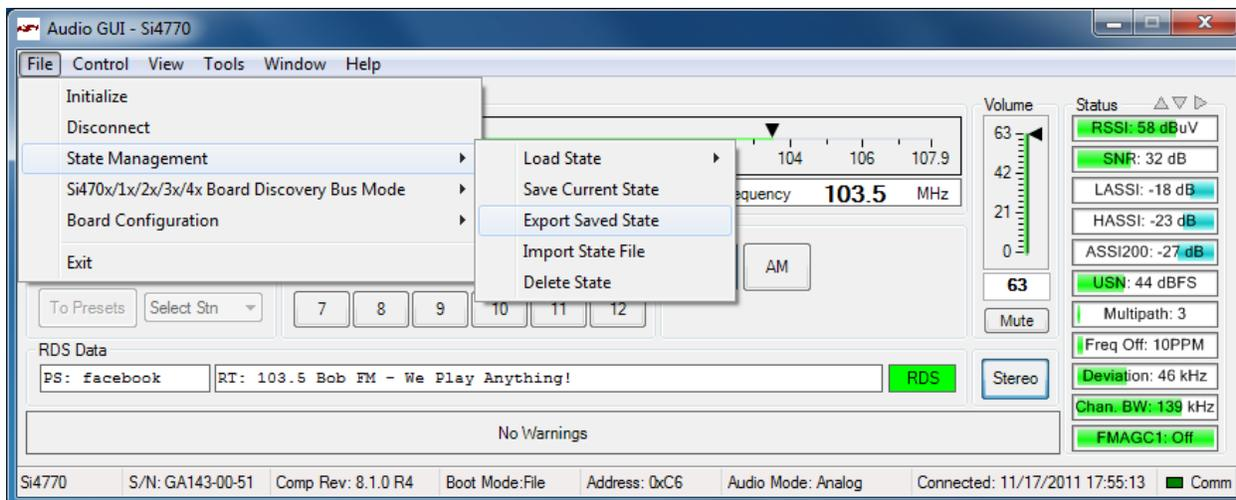

Figure 16. Exporting Saved State
1. Go to File→ State Management→ Export Saved State to export the saved state into a file as shown in Figure 16.